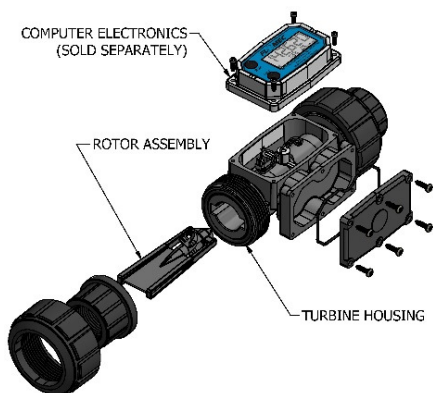

Figure 3
1. Remove the turbine from the system. (See Figure 3)
4. Install the rotor assembly into the turbine housing. Make sure the pointed end of the rotor assembly is inserted first (see Figure 3). Guide the assembly into place using a smooth motion, little or no force is required.